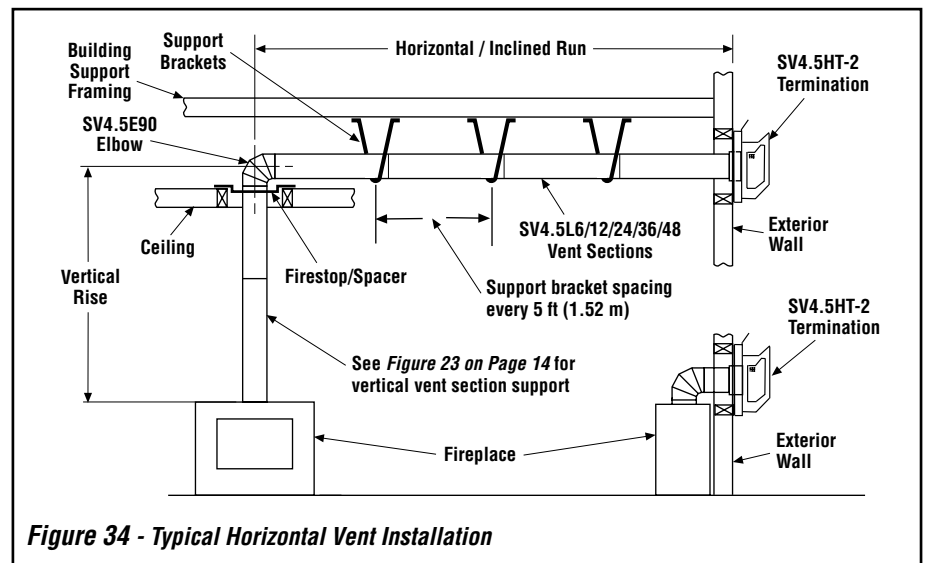

Figure 34 - Typical Horizontal Vent Installation
Figures 34, and Figures 38 to 43 on Pages 22 To 24 and their associated Horizontal Vent Table illustrate the various horizontal venting configurations that are possible for use with these appliances. **Secure Vent®** pipe applications are shown in these figures; **Secure Flex®** pipe may also be used. A Horizontal Vent Table summarizes each system's minimum and maximum vertical and horizontal length values that can be used to design and install the vent components in a variety of applications.
I. Continue installation of horizontal/inclined sections - Continue with the installation of the straight vent sections in horizontal/inclined run as described in **Step E**. Install support straps every 5 ft. (1.52 m) along horizontal/inclined vent runs using conventional plumber's tape. See **Figure 34**. **It is very important that the horizontal/inclined run be maintained in a straight (no dips), slightly elevated plane. The recommended incline is approximately 1/4" per foot (20 mm per meter) horizontal, in a direction away from the fireplace. The rise per foot run ratios that are smaller are acceptable all the way down to at or near level.** Use a carpenter's level to measure from a constant surface and adjust the support straps as necessary.